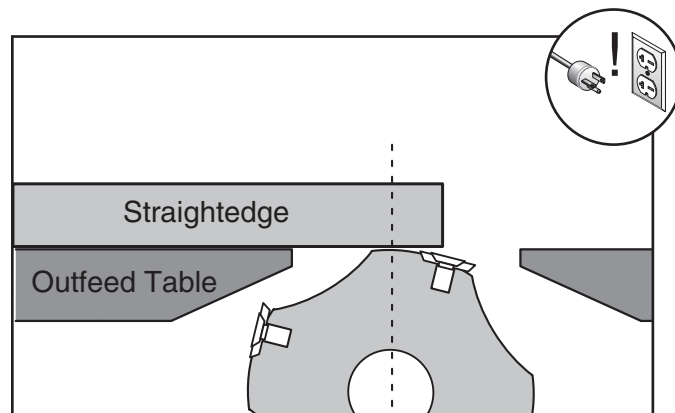

Figure 34. Adjusting outfeed table even with cutterhead body.
5. Place the straightedge on the outfeed table so it hangs over the cutterhead, then lower the outfeed table until the straightedge just touches the cutterhead body, as shown in **Figure 34** (rotate the cutterhead if necessary).
1. Place the straightedge on the outfeed table so it hangs over the cutterhead, then lower the outfeed table until the straightedge just touches the cutterhead body, as shown in **Figure 34** (rotate the cutterhead if necessary).